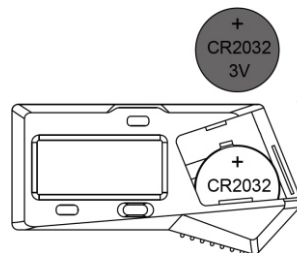

Fig. 2
- » Insert a CR2032 battery into the compartment with the positive side (+) facing outward (Fig. 2).